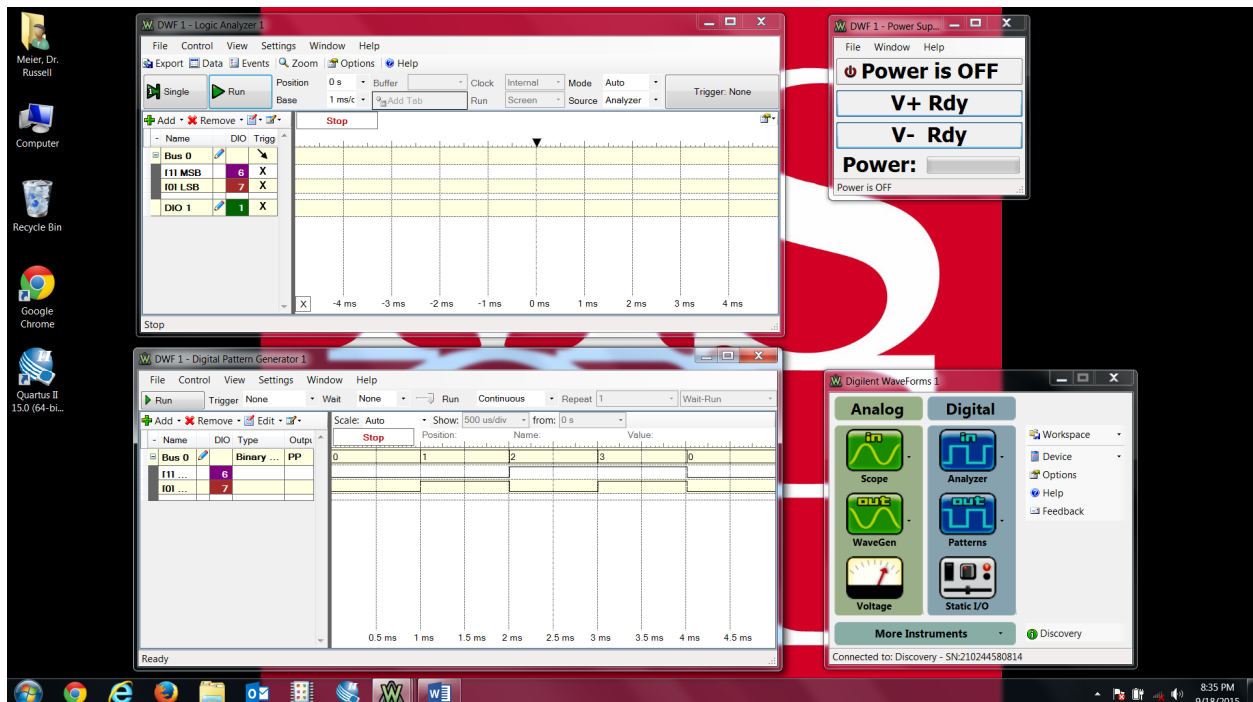

Figure 7: Instruments Ready to Test the 7408 AND Gate
9. **Compare** your work to Figure 7.